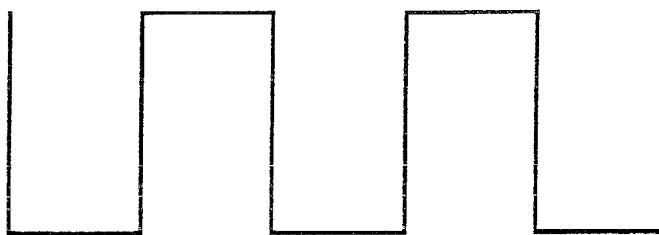

Fig 2.6 *Force Wave Input*
7. If no waveform is present, check the Force Wave input on C212. This should be a square wave at 1.5kHz with an amplitude of + and -10V as shown in Fig 2.6. If this square wave is not present check IC303.